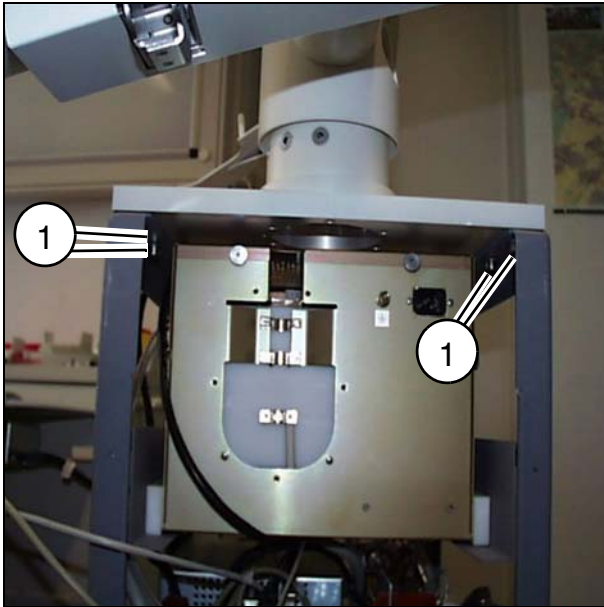

Fig. 37
- Loosen 4 screws of the support arm mounting (1/Fig. 37).
- Tighten the 4 mounting screws (1/Fig. 37) with 20 Nm torque.